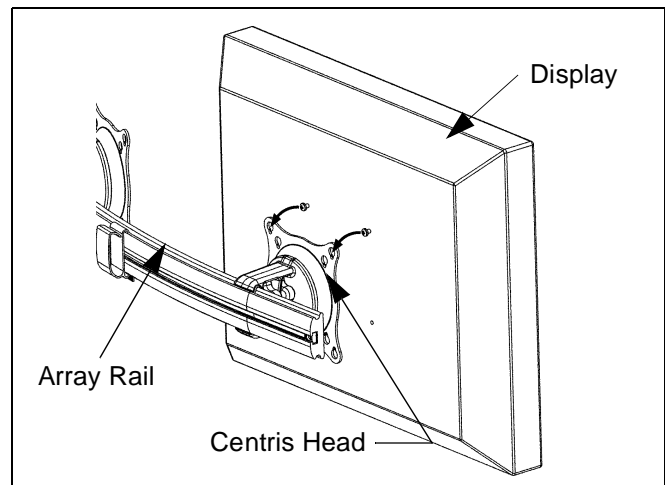

Figure 4: Hang Display
2. Hang display on Centris head. (See Figure 4)
3. Install bottom two M4 x 10mm Phillips pan head screws (20) through Centris head mounting holes and into lower mounting holes in display back.